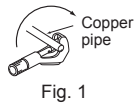

Fig. 1
- The drain hose should point downward for easy drain flow. (Fig. 1)
- Put the refrigerant piping and the drain hose together, then firmly apply felt tape (4) from the end. Felt tape (4) overlap width should be 1/3 the tape width. Use a bandage stopper at the end of felt tape (4).
- Pull out the drain cap at the rear right of the indoor unit. (Fig. 1)
- 1) Cut the copper pipe correctly with pipe cutter. (Fig. 1, 2)